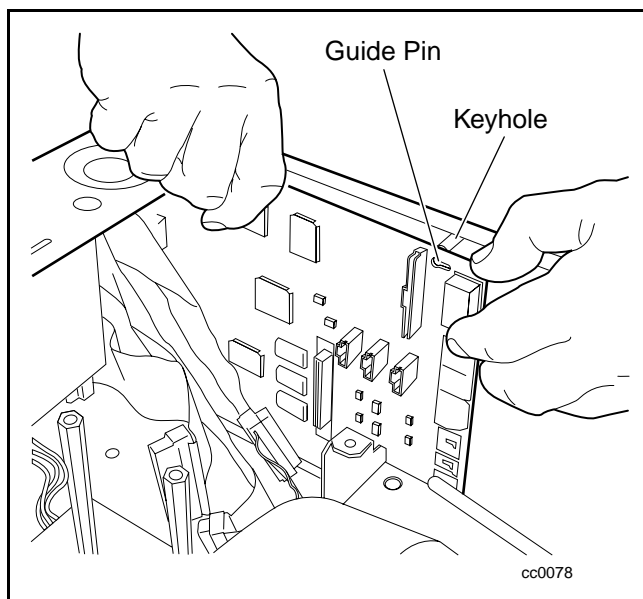

Figure 5-7. Removing the controller board
5. Lift the controller board off the guide pins (see Figure 5-7).